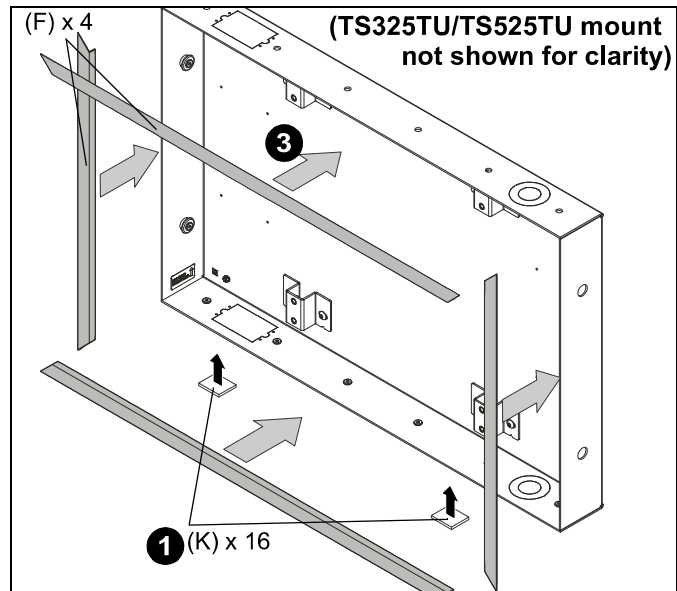

**Figure 13**
- Loosen flat head cap screws on upper carriage rail in order to loosen white spacer. (See Figure 13)
- Remove white spacer from mount. (See Figure 13)
- Tighten flat head cap screws. (See Figure 13)